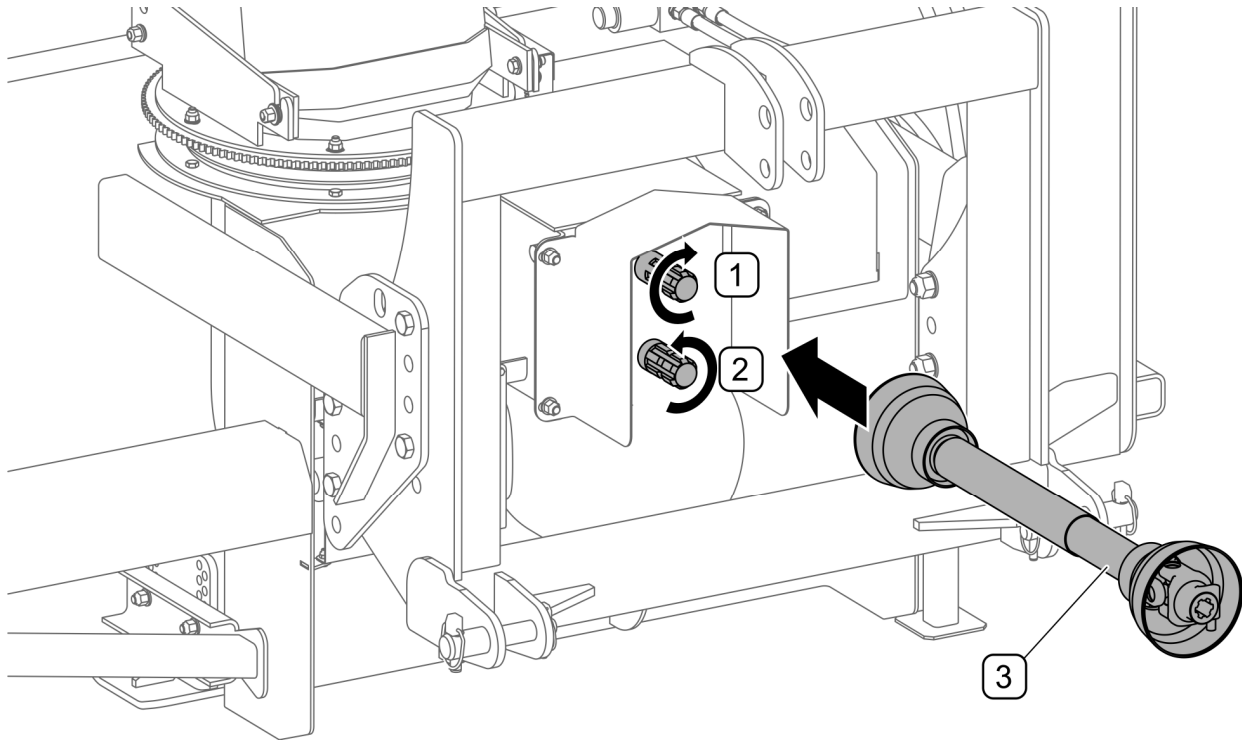

FIG. 4.3 Connecting PTO drive shaft
(1) - 1 000 rpm PTO shaft, rotation to the right; (2) - 540 rpm PTO shaft, rotation to the left; (3) - PTO drive shaft (optional equipment);
Depending on rotation direction and rotation speed of PTO shaft and the method of connecting to the carrying vehicle, PTO drive shaft (3) should be connected to the appropriate PTO shaft (1) or (2) of the transmission (FIG. 4.3). PTO shaft (1) rotates to the right at the rotation speed of 1 000 rpm, whereas PTO shaft (2) rotates to the left at the rotation speed of 540 rpm (*looking at the shaft front*).